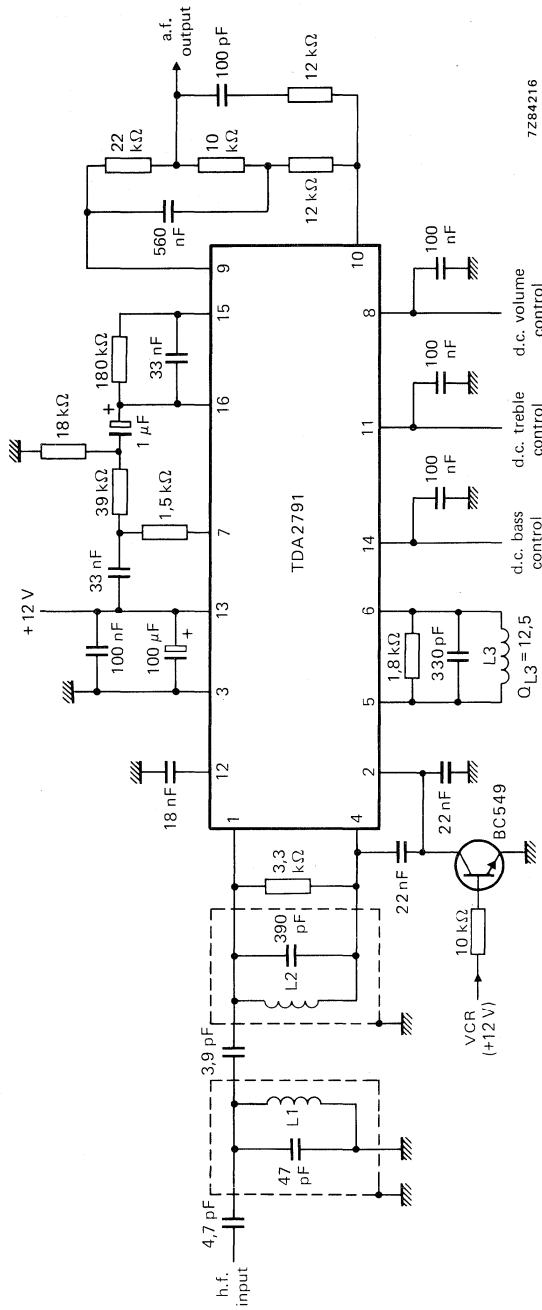

Fig. 9 Application circuit diagram.
(1) This is actually the a.f. output voltage as shown in Fig. 9.